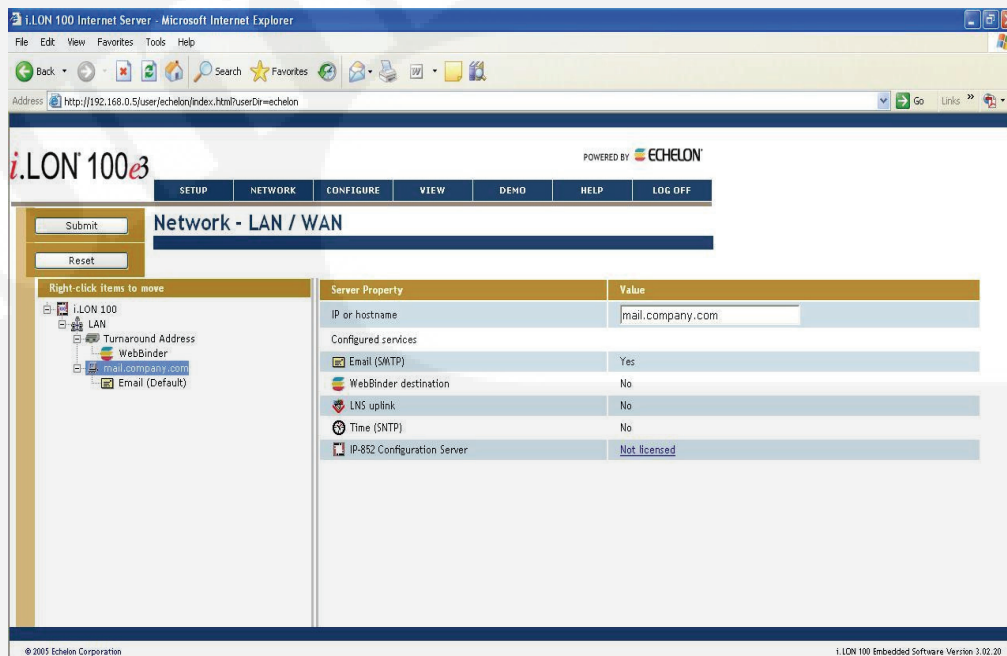

FIGURE 4-34. LAN/WAN NETWORK SETUP
b. On the tree in the left hand pane under LAN, select “mail.company.com” (see Figure 4-34).
4. Provide the name of the customer’s mail server in “Server Property Value” (see Figure 4-34).